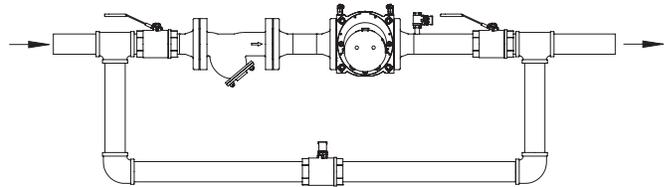

Figure 2. Horizontal installation, side view
a) Piping Configurations (Figures 2, 3 and 4)